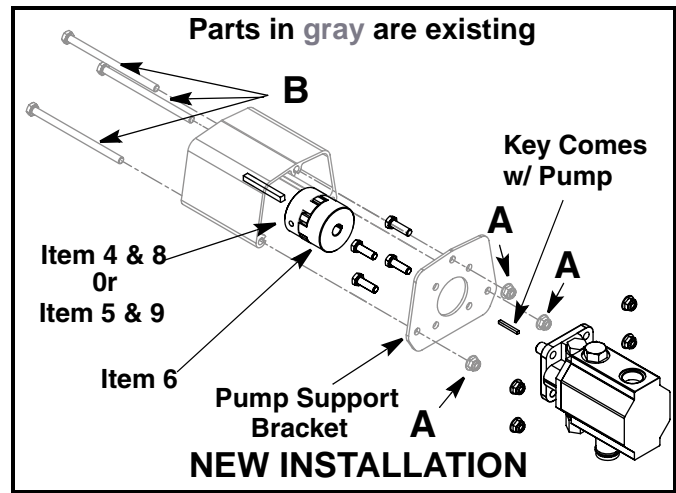

FIGURE 3
New Pump Subassembly Build: (Refer to Figure 3)
16. Secure the coupling shield and pump subassembly with the three lock washers and nuts (A) removed in Step 11.
17. Select the appropriate new engine Coupling Half and key to match the crankshaft diameter, Items 4 and 8 for a 1" diameter crankshaft or Items 5 and 9 for a 7/8" diameter crankshaft. Discard the unused alternate coupling. See Figure 3.
18. Select the appropriate new engine Coupling Half and key to match the crankshaft diameter, Items 4 and 8 for a 1" diameter crankshaft or Items 5 and 9 for a 7/8" diameter crankshaft. Discard the unused alternate coupling. See Figure 3.
21. Slide the coupling shield onto the three mounting bolts (B). Refer to Figure 3.
23. Install the new pump subassembly w/ spider onto the three mounting bolts (B). Refer to Figure 3.
25. Secure the coupling shield and pump subassembly with the three lock washers and nuts (A) removed in Step 14.